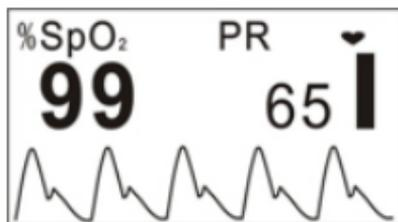
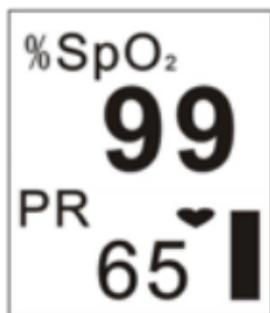
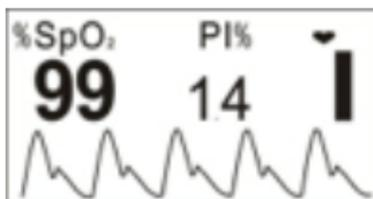
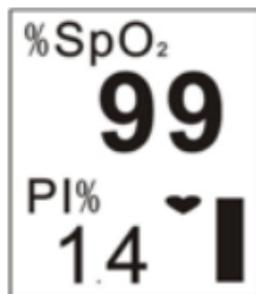

Figure 4
Figure 5
Figure 6
Figure 7
4. Next enter into data display screen (as shown in Figure 4). User can read the values and view the waveform from display screen.
5. When the display is shown as Figure 4, press Display Key to switch display screen.
- Press Display Key once, display screen (as shown in Figure 4) will be flipped 180°.
- Press Display Key twice, display screen will be changed as Figure 5.
- Press Display Key three times, display screen (as shown in Figure 5) will be flipped 180°.
- Press Display Key four times, display screen will back to the screen as shown in Figure 4.
- Press Display Key circularly, display screen will be switched between the two screens (as shown in Figure 4 and Figure 5), and four directions display alternately.
6. Longtime press Display Key (about 2 seconds), display screen will be shown as Figure 6. Differences between Figure 6 and Figure 4 are as follows
- In Figure 4, SpO2 and pulse rate are being monitored and displayed on the screen.
- In Figure 6, SpO2 and perfusion index are being monitored and displayed on the screen.
- When the screen displays as shown in Figure 6, press Display Key circularly, the display screen will be switched between the two screens (as shown in Figure 6 and Figure 7), and four directions display alternately.
- Display screen (as shown in Figure 6 or Figure 7) will return to the screen as shown in Figure 4 or Figure 5 if without operation in 10 seconds